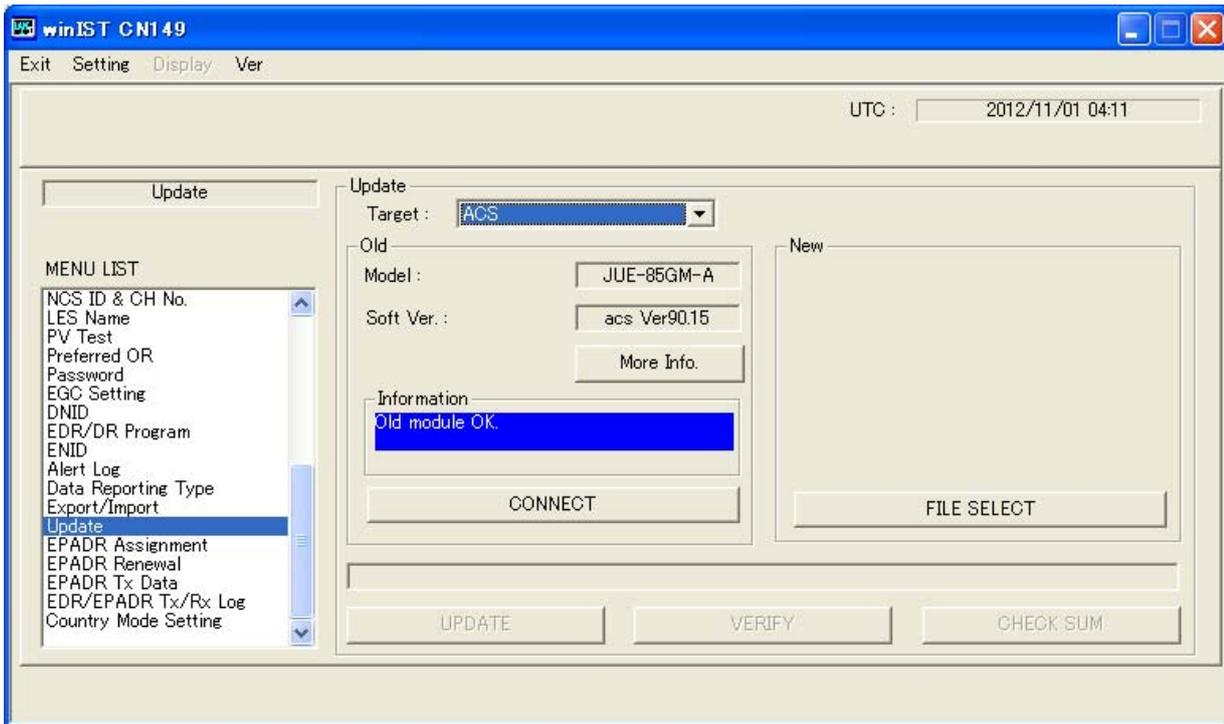

Fig. 4-33f Updated screen after Old information is acquired
Step 5. Following dialogue box is displayed when the winIST acquired *terminal software information* (Old information). Click [OK], then the screen returns to Update screen (See Fig. 4-33f Update screen after Old information acquired.)
- Following are the displayed screen after Old information is acquired. Rightfulness of Old information is displayed in Information column. The color of bar indicates the status of Old information, blue is normal and red is abnormal (confirm the detail of the Old information in Fig. 4-33f Updated screen after Old information is acquired).
* Click [More Info.] at [Fig. 4-33f Updated screen after Old information is required], to confirm the detail of old information.
*Following window is displayed by [More Info.] is clicked at [Fig. 4-33f Update screen after Old information is acquired] when [IME] is selected to [Target].